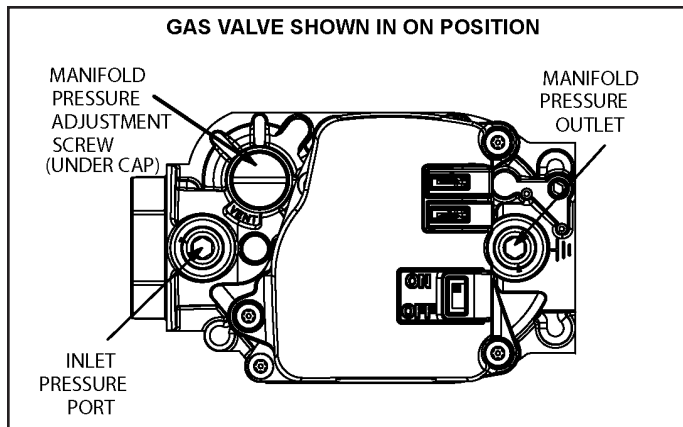

Figure 73.
See Figure 73
6. Move gas valve switch to OFF. See Figure 73.
8. Move gas valve switch to ON. See Figure 73.